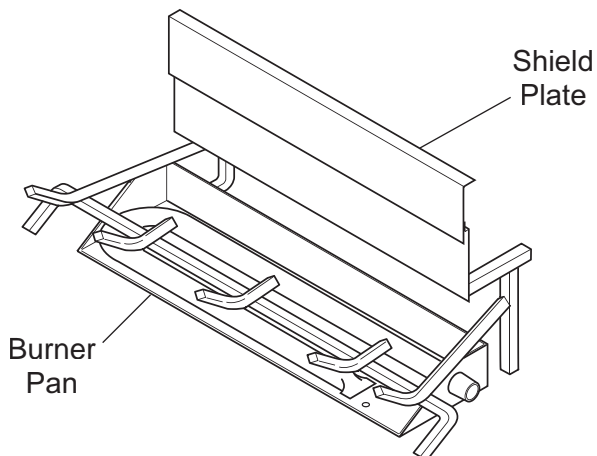

Figure 138 - Sliding Shield Plate Down Back of Burner Pan
1. Slide shield plate down back of burner pan. *See Figure 138.*